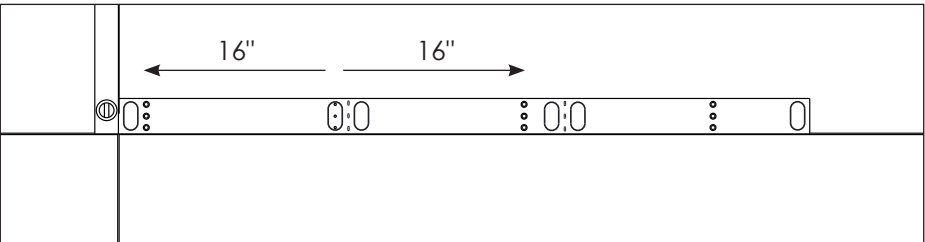

Figure 5: Move Studs at Interference Locations
4. Mark new stud locations at 16" increments on both sides of the stud if a stud location directly overlaps with a KEEP OUT slot. Refer to **Figure 5**. If a stud location overlaps with a KEEP OUT slot but not enough to reach the center of the stud mark, do not consider this an interference.